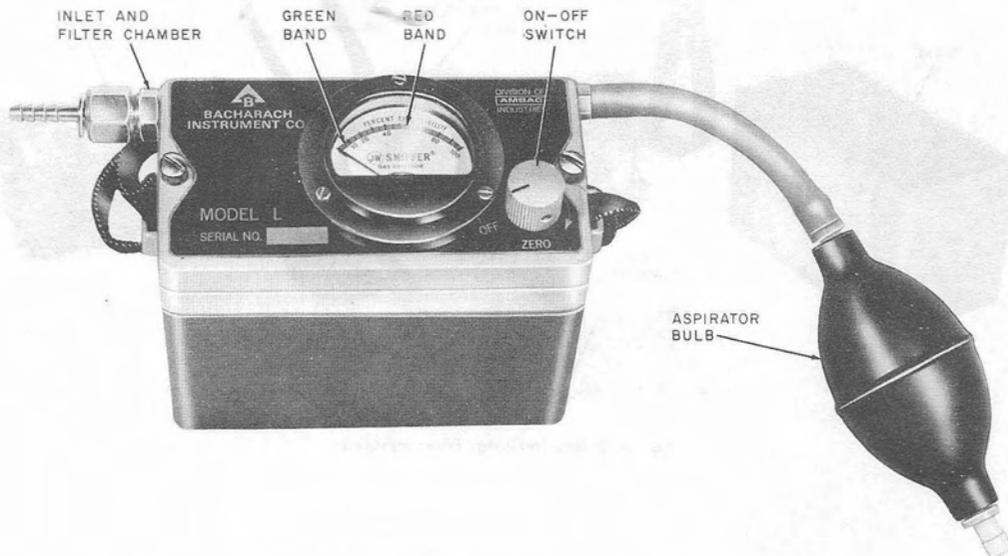

Fig. 1—E Gas Indicator
2.01 The E gas indicator, illustrated in Fig. 1, weighs about 6 pounds. The following items are furnished with the indicator.
2.02 The indicator consists of the following items housed in a plastic and metal case (see Fig. 1 and 2).
2.04 The meter face of the indicator is color coded, as shown in Fig. 1, with a green band from 0 to 10 percent and a red band beyond 10 percent. These colors indicate satisfactory and unsatisfactory atmospheres, respectively, as discussed in Section 620-140-501.
4.02 The graduations on the meter scale, shown in Fig. 1, are in percent of the lower explosive limit (decimal equivalents on older units) of combustible gases usually found in manholes. A deflection of the needle between 0 and 100 shows how closely the sample approaches the minimum concentration required for an explosion. If the needle is deflected to the extreme right-hand side of the scale and remains there, the concentration of gas is in the explosive range.